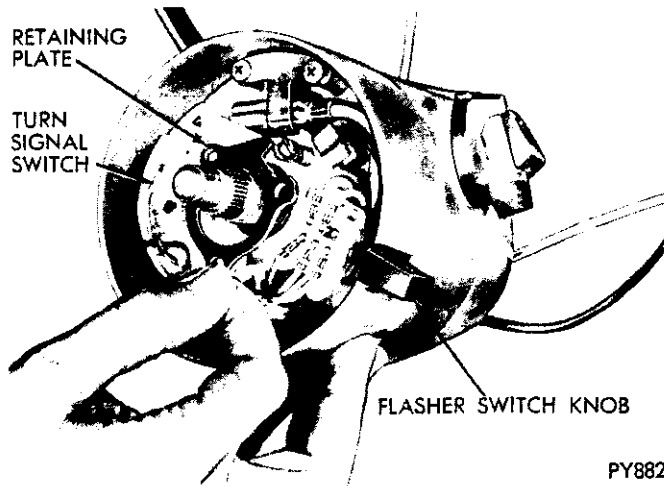

Fig. 4—Retainer and Turn Signal Switch
- (1) Remove four bolts attaching bracket assembly to column jacket.
- (2) Remove two screws and lift off wiring trough.
- (3) Attach Column Holding Fixture C-4132 to column jacket and clamp the assembly in a vise.
- (4) Drive out gearshift lever pivot pin, then remove lever and spring from housing.
- (5) Remove turn signal switch and upper bearing retainer screws. Remove retainer and lift switch upward out of the way (Fig. 4).